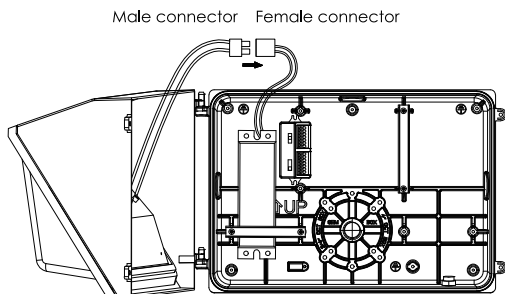
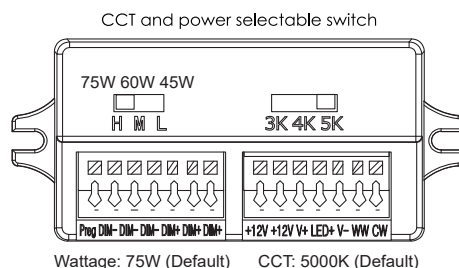

figure 3.1
figure 3.2
**Step 3** Connect the male and female connectors together, and select your required CCT and power by the DIP switch. (figure 3.1) (figure 3.2)